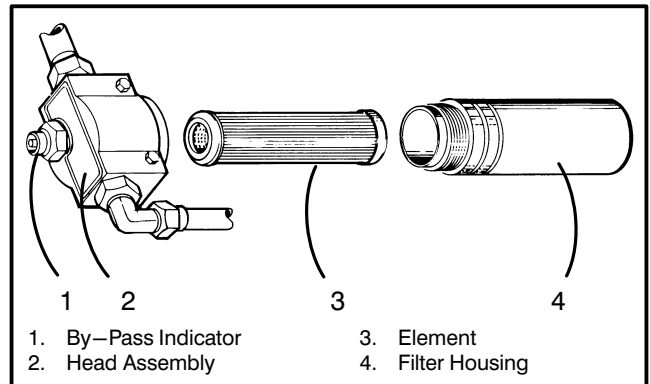

Figure 2-28
2. Clean the entire filter assembly and adjacent areas. Refer to Figure 2-28.